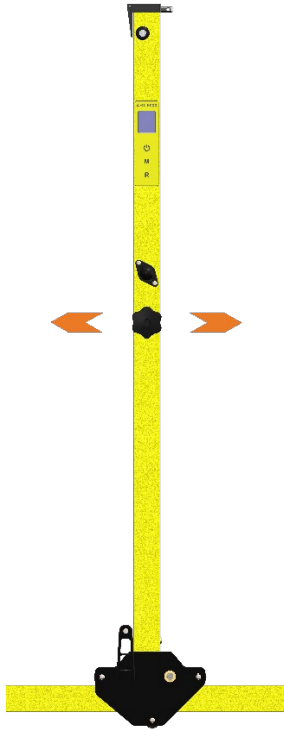

Figure 6 – Stagger adjustment
4. The vertical beam can be moved from side to side by turning the stagger adjustment wheel located in the centre of the vertical beam (shown in figure 6). Adjust the vertical beam until the red LED guide dot is on the OHL, press 'M' again to record the stagger measurement which will be displayed on the screen of the DLHS gauge.